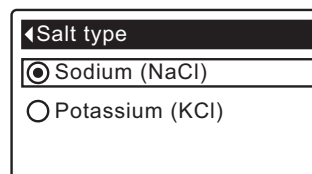

FIG. 36
5. Press the SELECT (O) button to display the Salt type menu (See Figure 36).
6. If the desired salt type already has a black dot next to it (See Figure 36), go to Step 7. Otherwise, press the softener's DOWN (▼) or UP (▲) buttons to scroll to the other salt type, then press SELECT (O) to choose it.
7. Press the SELECT (O) button. The display will go back to the Salt settings menu.